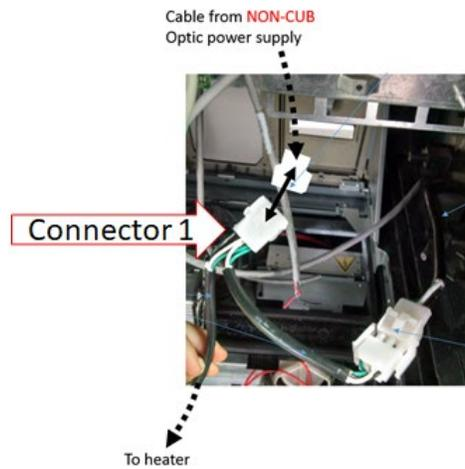
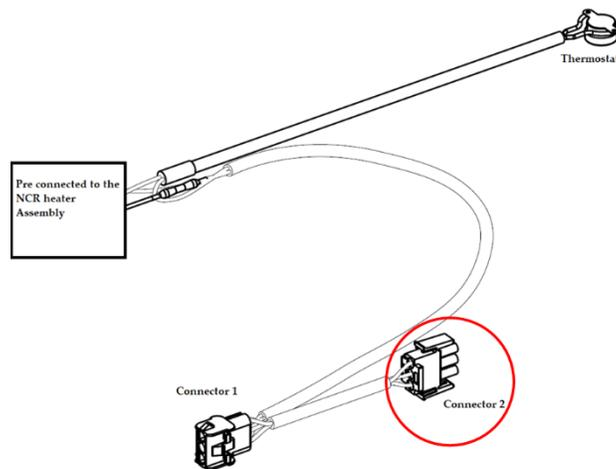

Figure 258
Figure 259
27) Attach Connector 1 (identified in Figure 258) to the NON-Invenco Link OPTIC power supply cable as shown in Figure 259.